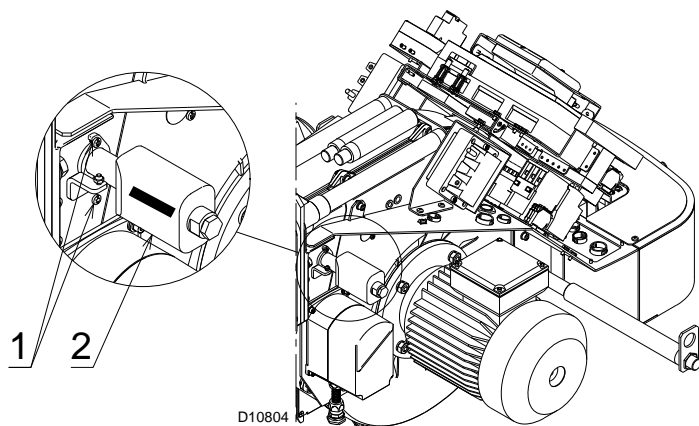

Fig. 39
- loosen, without removing the screws 1)(Fig. 39);